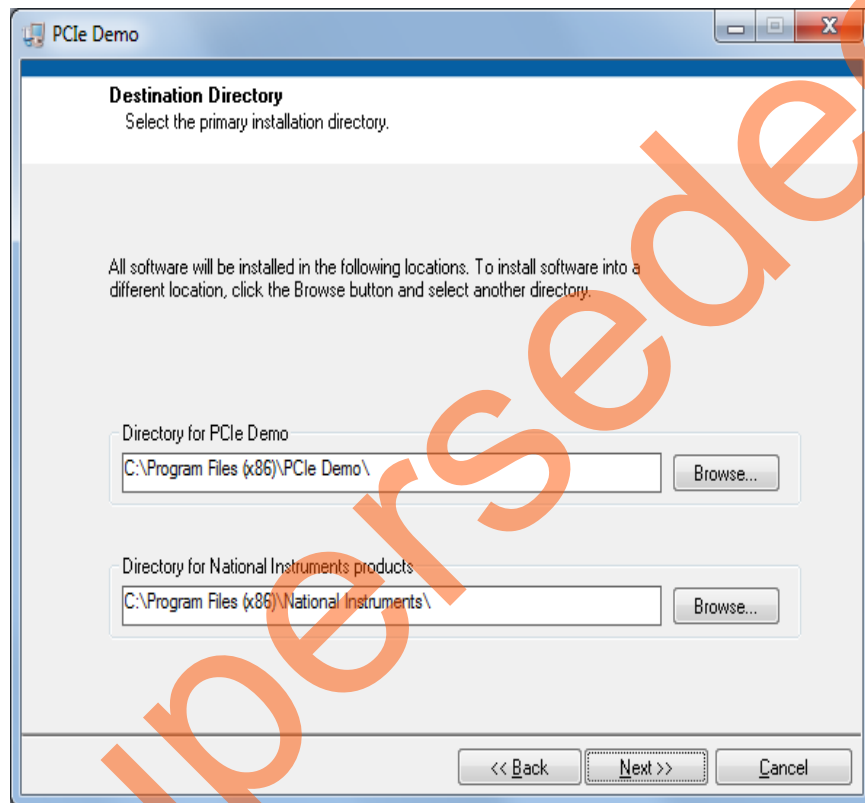

Figure 14 • Installing PCIe_Demo Application
3. Double-click the **setup.exe** in the provided GUI installation (PCle_Demo_GUI_Installer\setup.exe). Apply default options as shown in Figure 14.